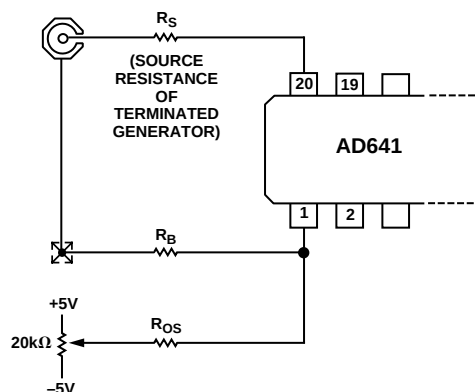

Figure 25. Optional Input Offset Voltage Nulling Circuit; See Text for Component Values
In most applications there will be no need to use any offset adjustment. However, a general offset trimming circuit is shown in Figure 25. R_S is the source resistance of the signal. *Note: 50 Ω rf sources may include a blocking capacitor and have no dc path to ground, or may be transformer coupled and have a near zero resistance to ground.* Determine whether the source resistance is zero, 25 Ω or 50 Ω (with the generator terminated in 50 Ω) to find the correct value of bias compensating resistor, R_B , which should optimally be equal to R_S , unless $R_S = 0$, in which case use $R_B = 5\text{ }\Omega$. The value of R_{OS} should be set to 20,000 R_B to provide a $\pm 250\text{ }\mu\text{V}$ trim range. To null the offset, set the source voltage to zero and use a DVM to observe the logarithmic output voltage. Recall that the LOG OUT current of the AD641 exhibits an *absolute value response* to the input voltage, so the offset potentiometer is adjusted to the point where the logarithmic output "turns around" (reaches a local maximum or minimum).
R4 is identical to R2, and in shunt with R3 (270 Ω thin film) forms a 27 Ω resistor with the same TC as the output resistance of the attenuator. By connecting Pin 1 to ATN LOW (Pin 2) this resistance minimizes the offset caused by bias currents. The offset nulling scheme shown in Figure 25 may still be used, with the external resistor R_B omitted and R_{OS} = 500 k Ω . Offset stability is improved because the compensating voltage introduced at Pin 20 is now PTAT. Drifts of under 1 $\mu\text{V}/^\circ\text{C}$ (referred to Pins 1 and 20) can be maintained using the attenuator.
Cascaded AD641s can be used in dc applications, but input offset voltage will limit the dynamic range. The dc intercept is 6 μ V. *The offset should not be confused with the intercept*, which is found by *extrapolating* the transfer function from its central “log linear” region. This can be understood by referring to Equation (1) and noting that an input offset is simply additive to the value of V_{IN} in the numerator of the logarithmic argument; it does not affect the denominator (or intercept) V_X . In dc coupled applications of wide dynamic range, special precautions must be taken to null the input offset and minimize drift due to input bias offset. It is recommended that the input attenuator be used, providing a practical input range of -74 dBV (± 200 μ V dc) to $+6$ dBV (± 2 V dc) when nulled using the adjustment circuit shown in Figure 25.